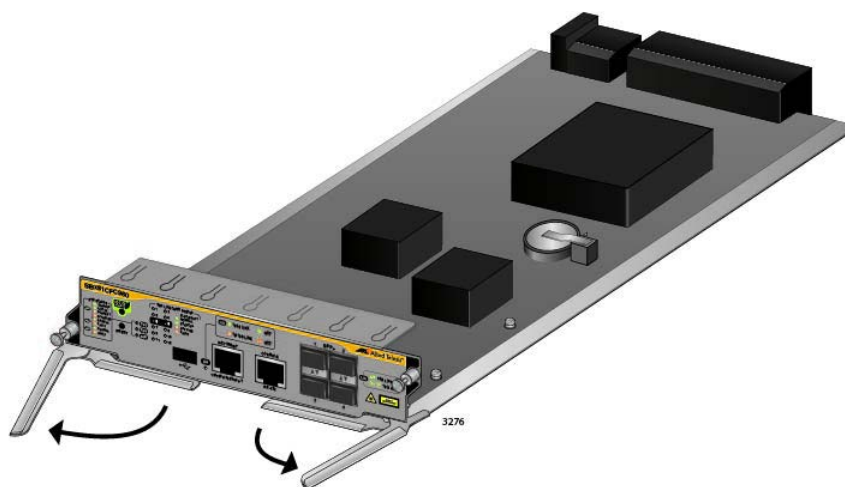

Figure 67. Opening the Locking Handles on the AT-SBx81CFC960 Controller Fabric Card
5. Move the locking handles on the front panel to the open position, as shown in Figure 67.